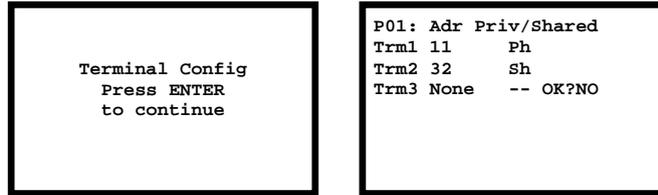

Fig. 13
- Pressing the key again will display the sequence of masks as shown in Fig. 13;
The Pxx field: this shows the address of the selected board; in the example in fig. 13, P01 has been selected. To exit from the configuration procedure and memorize the data, select the “OK ?” field and set it to YES and then press **ENTER** to confirm.